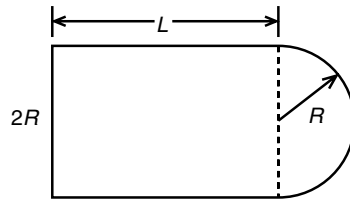

Figure P13
13. A fenced enclosure consists of a rectangle of length L and width $2R$ and a semicircle of radius R , as shown in Figure P13. The enclosure is to be built to have an area A of 2000 ft². The cost of the fence is \$50 per foot for the curved portion and \$40 per foot for the straight sides. Use the `fminbnd` function to determine with a resolution of 0.01 ft the values of